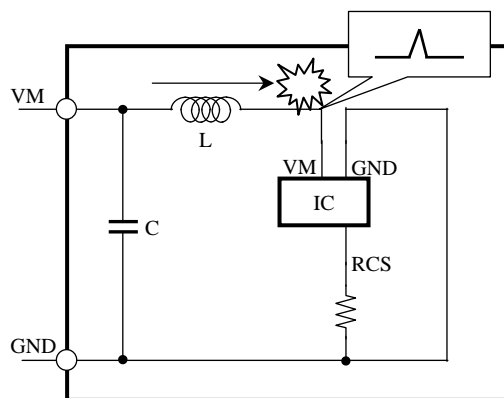
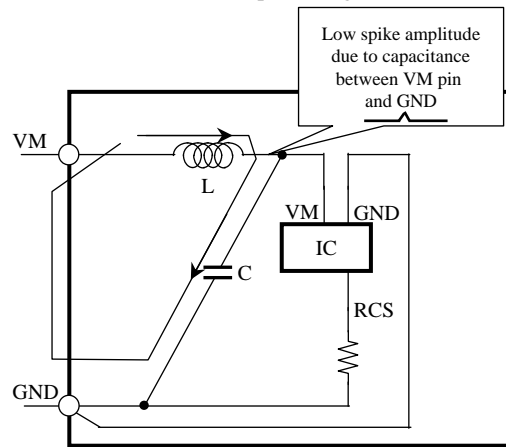

Figure 1. No recommended pattern
Figure 2. Recommended pattern
10) A high current flows into the IC. Therefore, the common impedance of PCB can not be ignored. Take the following points into consideration and design the PCB pattern for a motor. Because the wiring connecting to VM1 (Pin 43) and VM2 (Pin 41) of this IC is high-current, it is easy to generate noise at time of switching by wiring L. That might cause malfunction and destruction (Figure 1). As Figure 2, the escape way of the noise is secured by connecting a capacitor to the connector close to the VM pin of the IC. This makes it possible to suppress the fluctuation of direct VM pin voltage of the IC. Make the setting as shown in Figure 2 as much as possible.